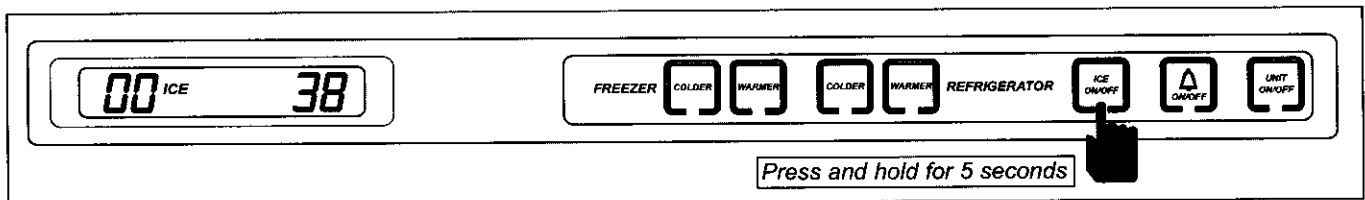

Figure 3-17. Initiate Manual Freezer Evaporator Defrost - Press and Hold ICE ON/OFF key for 5 Seconds
To initiate manual freezer evaporator defrost, press and hold the ICE ON/OFF key for five (5) seconds, then release the key. (See Figure 3-17).